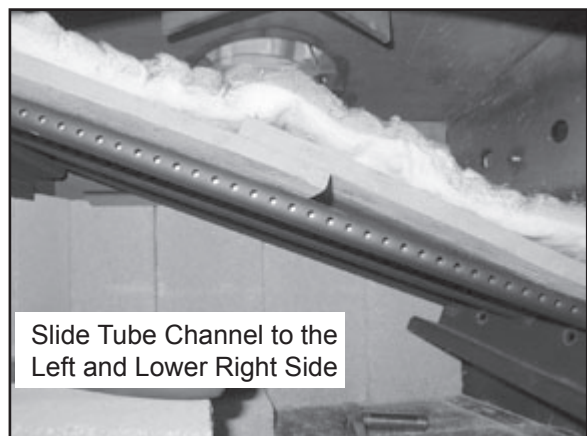

Figure 9.3
4. Slide the tube channel assembly to the left as far as it will go and lower the right side. Remove the baffle boards and ceramic blanket together. **Figure 9.3**